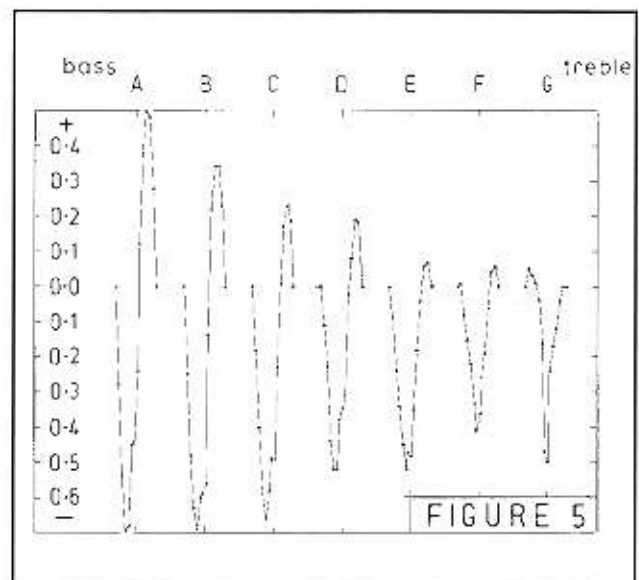
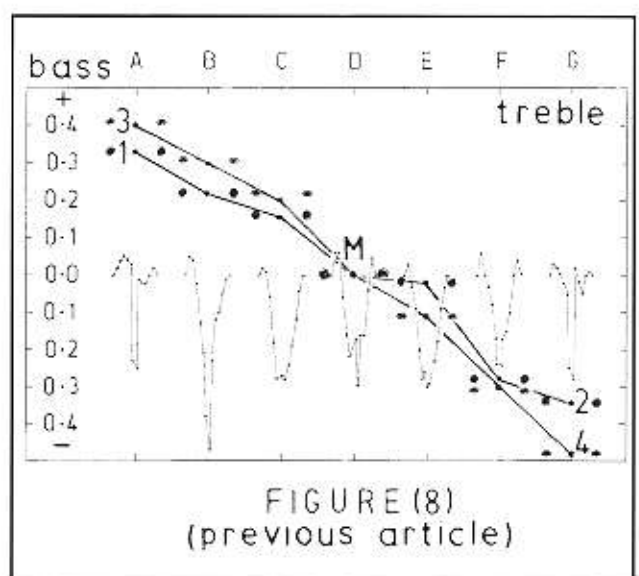

Fig 5. Initial cylinder measurements
Figure 8. (from a previous article)
arbor within fine limits. This was illustrated in figure 8 of that article: it is repeated here for comparison with measurements using the slotted arbor plates. As before, but with the cylinder now in the slotted arbors, initial readings were taken from a dial gauge at 30° intervals around the cylinder circumference, starting with the gauge set to zero diametrically opposite the soldered seam of the cylinder. Results for seven points (A-G) coincident with edges of comb segments are shown at fig 5. Comparing this figure with the previous data (fig (8)) indicates that the wild swings at bass end are probably due to the adjacent arbor not being central. Physical